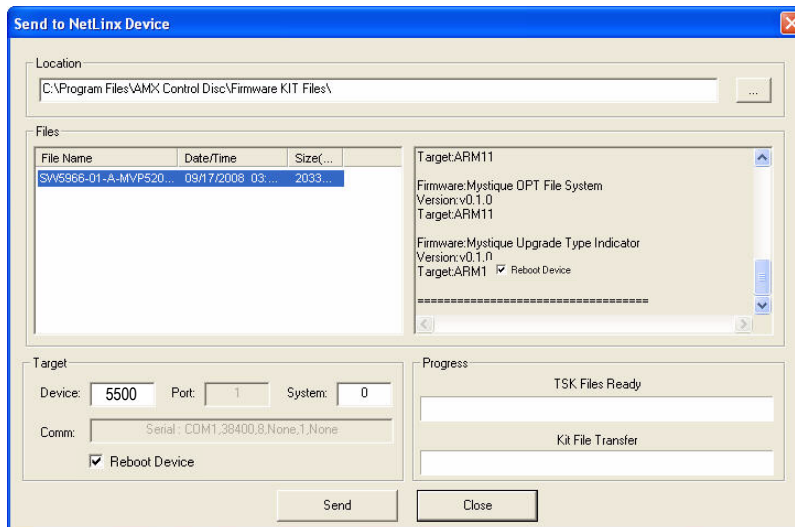

FIG. 60 Send To NetLin Device dialog (NetLin Studio)
- Assuming that the specified target directory contains one or more KIT files, the KIT files in the selected directory are displayed in the Files list box, with the file's last modified date and time (FIG. 60).